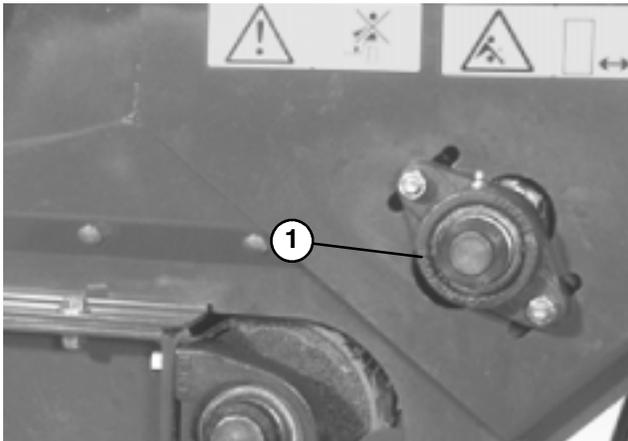

Figure 16
1. Loosen nuts securing bearing housing (Fig. 16) to right side of machine.